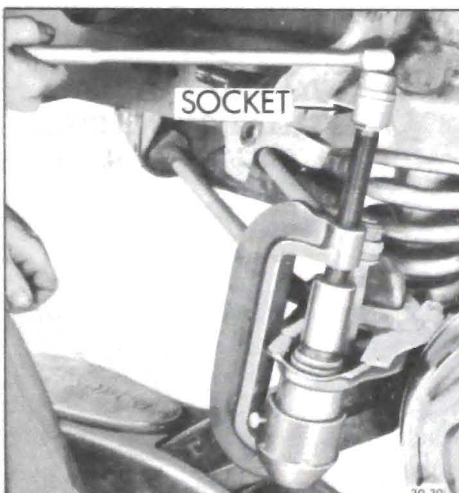

Figure 30-33 - Removing Lower Ball Joint
7. Tighten Detail J-9519-8 with a socket and handle as shown in Figure 30-33 until ball joint is forced out of the lower control arm.